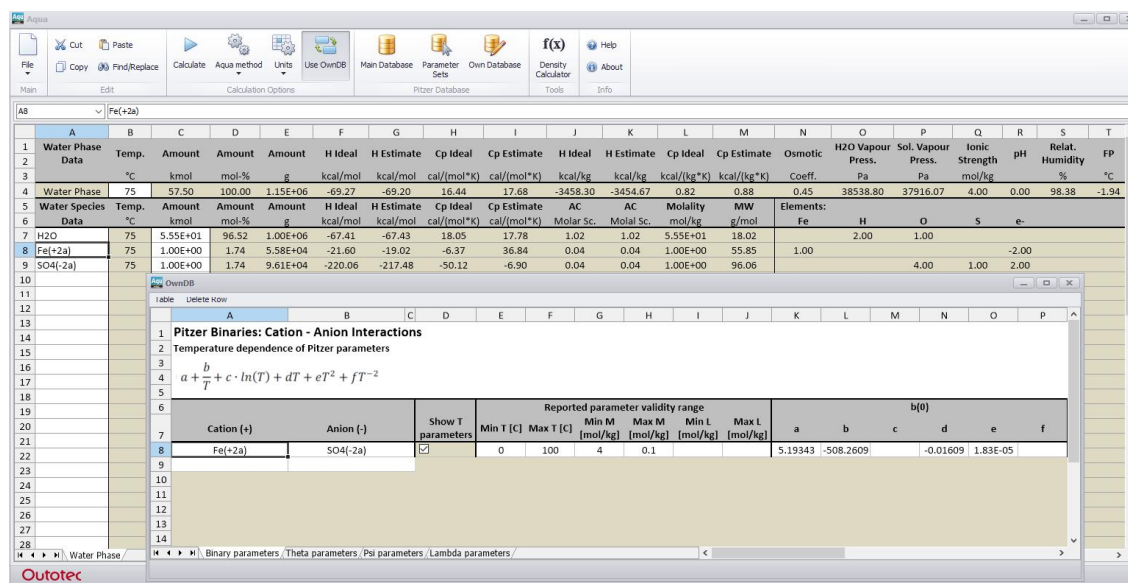

Figure 7. It is now possible to add your own Pitzer parameters in the Aqua module. These Own Pitzer parameters can also be used in the Gem and Sim modules.
- Makes it possible to use own Pitzer data in Aqua calculations. See **Figure 7**.